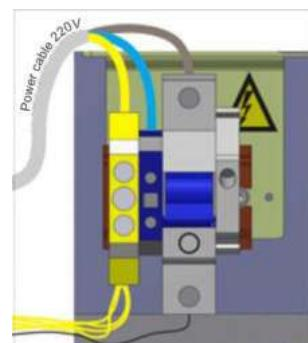
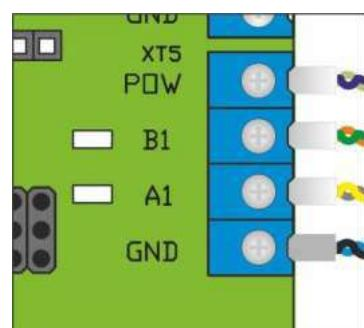

Fig. 21 – Connection of power supply cable
Fig. 22 – Connection of control desk link cable to terminals
a) Power supply cable ~230 V to be connected (Fig. 21):
- Neutral (N) to be connected to terminal ~230V (N);
- Earth (PE) to be connected to earthing terminal (PE)
b) Control desk link cable to be connected to terminals (Fig.22):